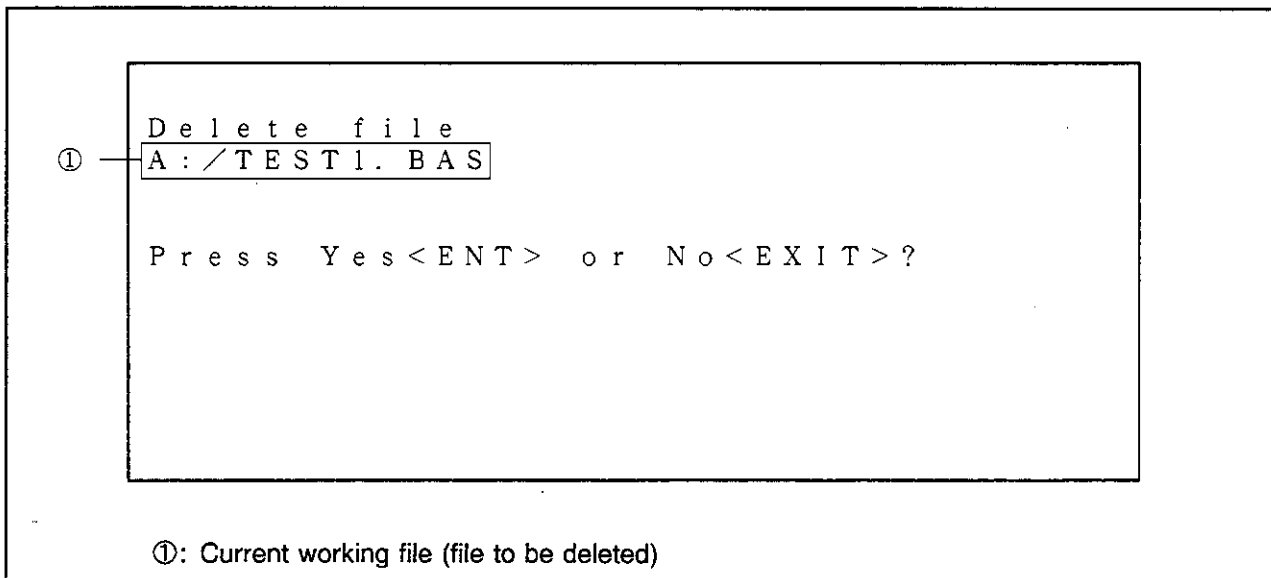

Figure 4-34 DEL Display Screen
- ②: The file indicated by the cursor will be output.
- ③: The function key list indicates the function keys available by PRT (printer output of file contents).
(6) DEL (file deletion) screen
When DEL (K4) is selected with the function key from the FILE mode, a screen like that shown in Figure 4-34 appears if the working file is a text file. (For details, see (3) in Section 4.1.4 "FILE Mode.")